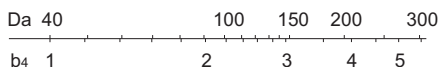

Fig.1 Dimension Factor
- C : Basic dynamic load rating (N)
- P : Equivalent radial load (N)
- b₄* : Dimension factor (see Fig.1)